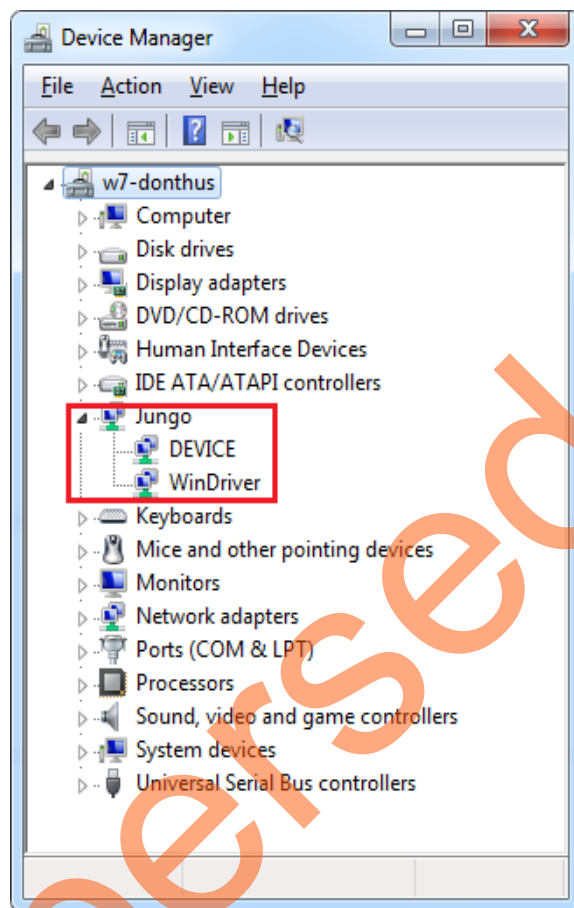

Figure 16 • Device Manager - PCIe Device Detection
1. Check the Host PC **Device Manager** for the drivers. Figure 16 shows the **Device Manager** window highlighting the Jungo drivers installed.